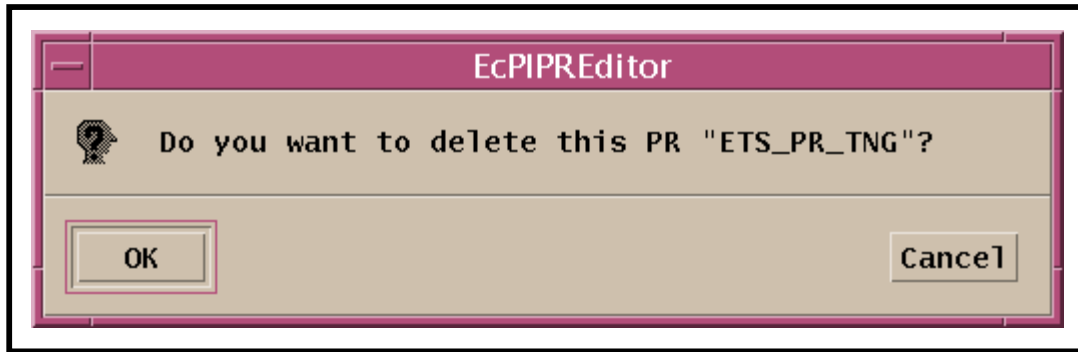

Figure 25. Production Request Deletion Confirmation Dialogue Box
- If there are no dependencies among Production Requests, a confirmation dialogue box similar to Figure 25 is displayed.